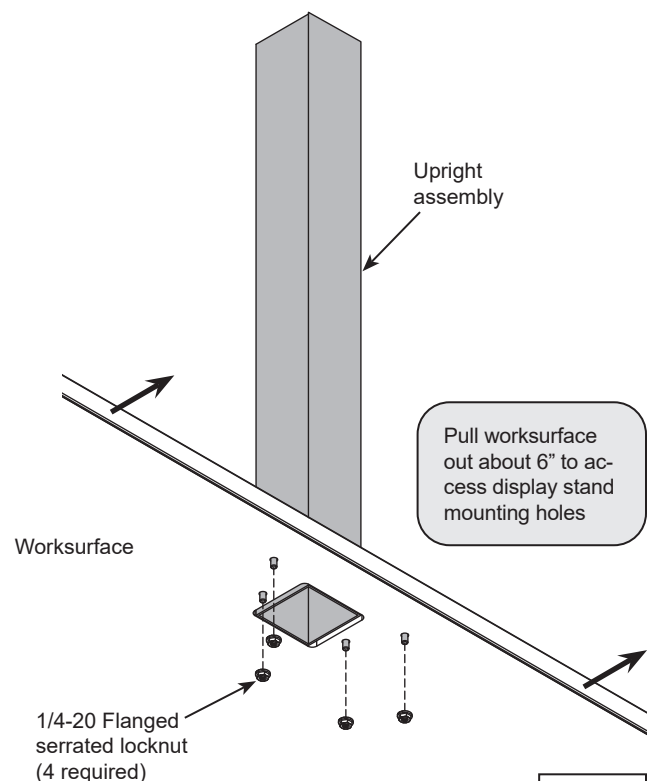

Figure 2.3
2. An unattached worksurface will facilitate installation of the display stand fasteners. If attached, remove the worksurface fasteners securing it to the base and slide the worksurface 6" over the base to provide access to the display stand mounting holes. **Figure 2.3**.
4. With a second person holding the upright, install (4) 1/4-20 Flanged serrated locknuts and tighten securely.